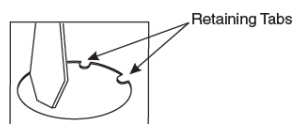

Figure 2
Place standard screwdriver on edge of circle (on opposite side from retaining tabs) and gently strike with hammer. Grip edge with pliers and flex back and forth until removed. **See Fig. 2.**
1. Remove Knock Out (KO) from Housing End Plate closest to Driver.
- To remove KO place standard screwdriver on edge of circle (on opposite side from retaining tabs) and gently strike with hammer. Grip edge with pliers and flex back and forth until removed. **See Fig. 2 above.**